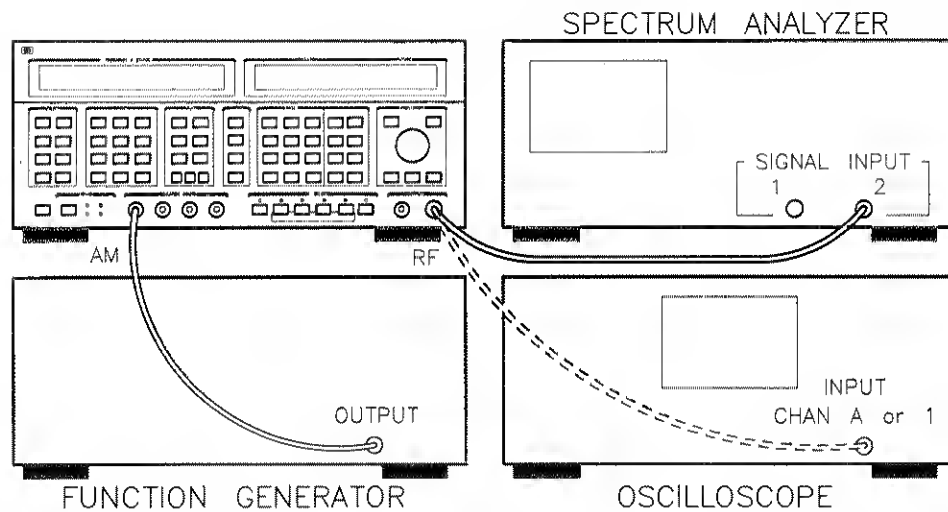

Figure 2-6. Equipment Setup for AM Procedure #2.
1. Connect the Signal Generator to a spectrum analyzer (or oscilloscope) and function generator as shown in figure 2-6. Turn on the equipment and make the following adjustments: